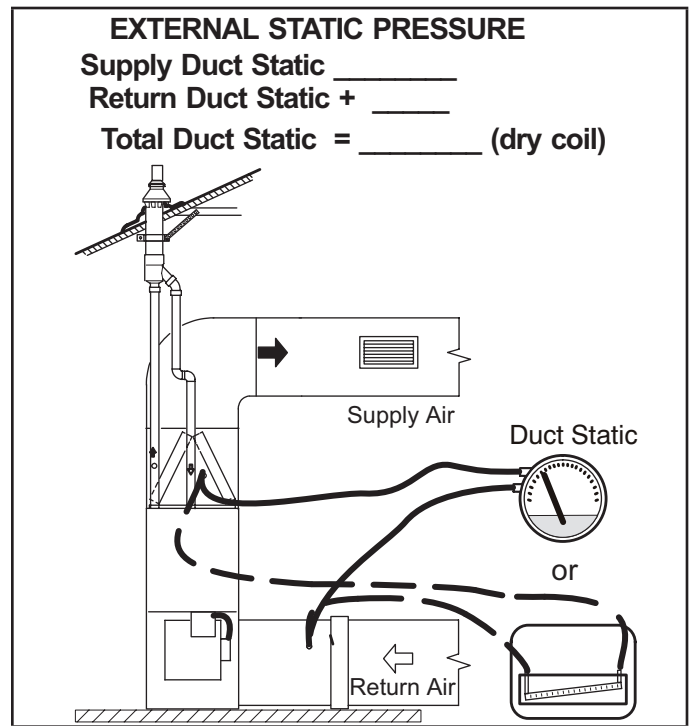

FIGURE 60
- 1 - Tap locations shown in figure 60.